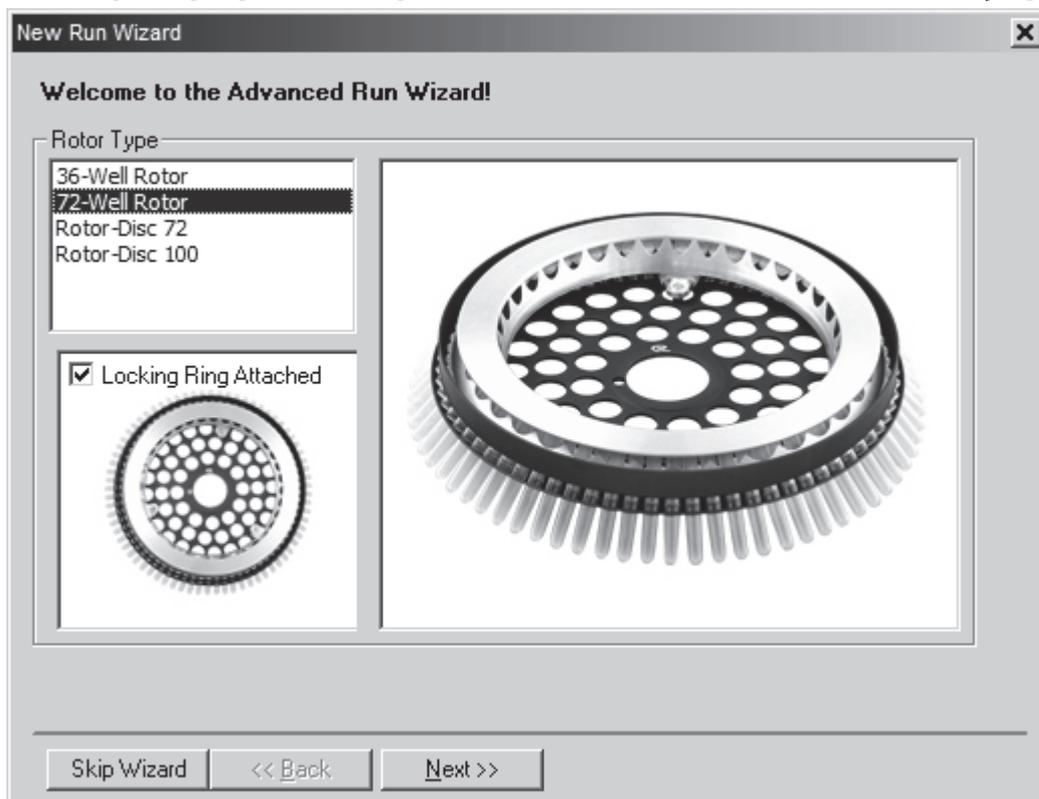

Figure 5. Selecting the rotor.
3. Select "72-Well Rotor", and confirm that you have attached the locking ring by checking the box. Click "Next" to continue (Figure 5).